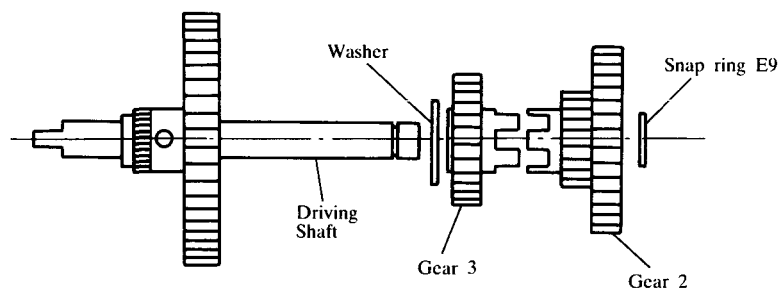

Fig. 54
- (2) Put the washer ( $\phi 12$ ), Gear 3 and the Gear 2 on the driving shaft. (Refer to Fig. 54).